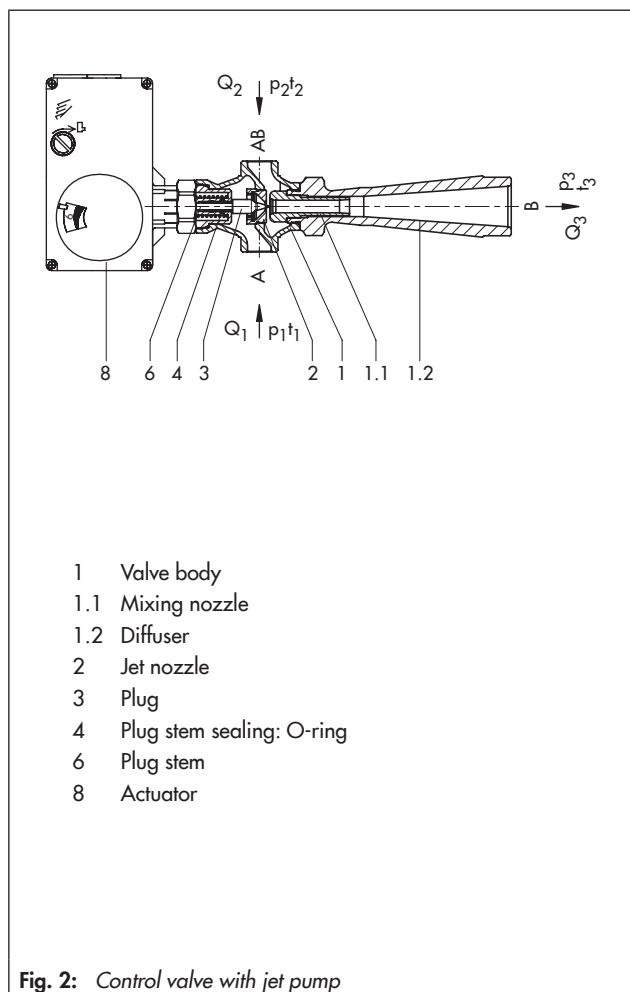

Fig. 2: Control valve with jet pump
Fig. 2 schematically illustrates a SAMSON valve with jet pump. It consists of a valve body (1) with jet nozzle (2) and plug (3), mixing nozzle (1.1) and diffuser (1.2). The variable cross-sectional area between the valve plug and jet nozzle determines the jet stream Q_1 .